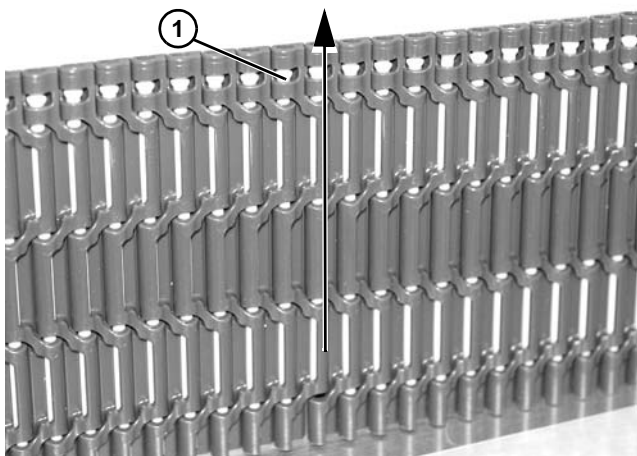

Figure 123
*Note that head of pin (**Figure 123, item 1**) should be removed in direction shown.*